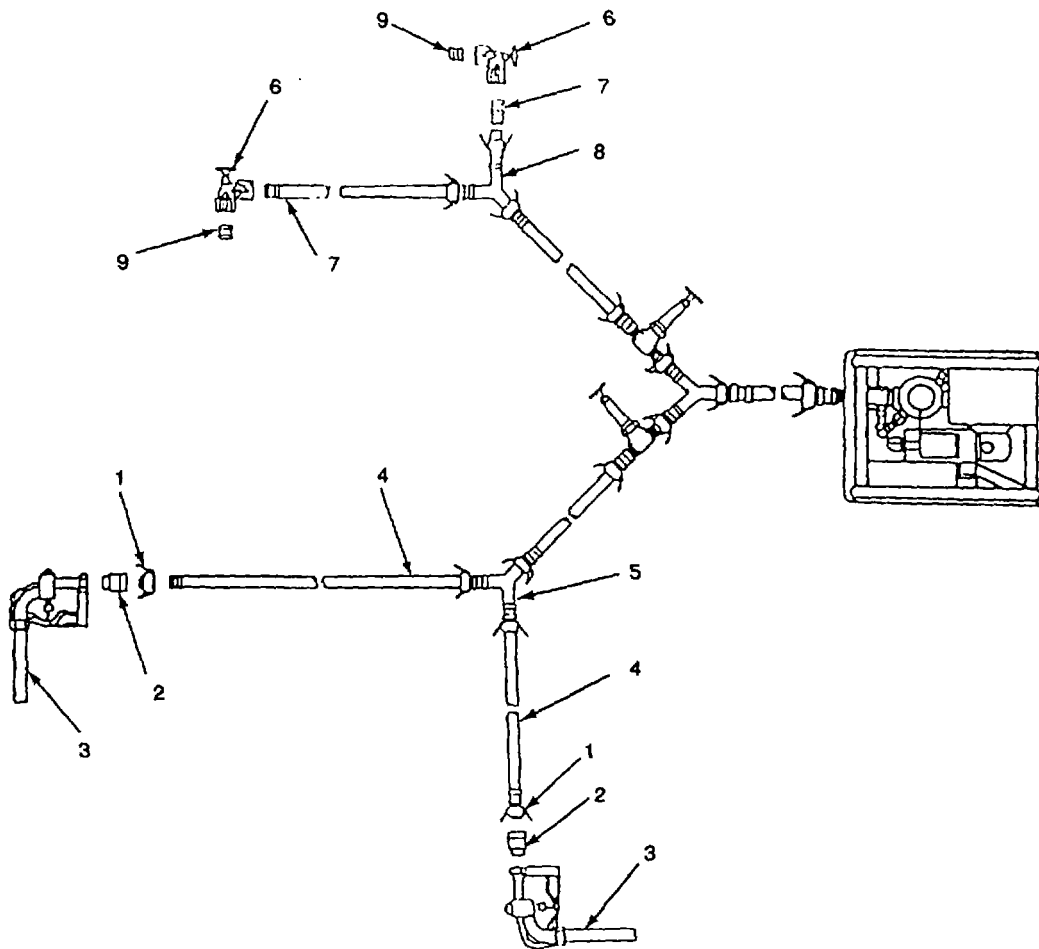

Figure 2-26. Distribution Point
- (37) Wrap anti-seize tape (Item 10, Appendix E) around threads of male end on two reducers (1, Figure 2-26). Screw reducers (1) into two hose swivels (2). Screw reducers (1) into two hose swivels (2).
- (38) Wrap anti-seize tape (Item 10, Appendix E) around threads of hose swivels (2). Screw hose swivels (2) into each of the two nozzles (3).